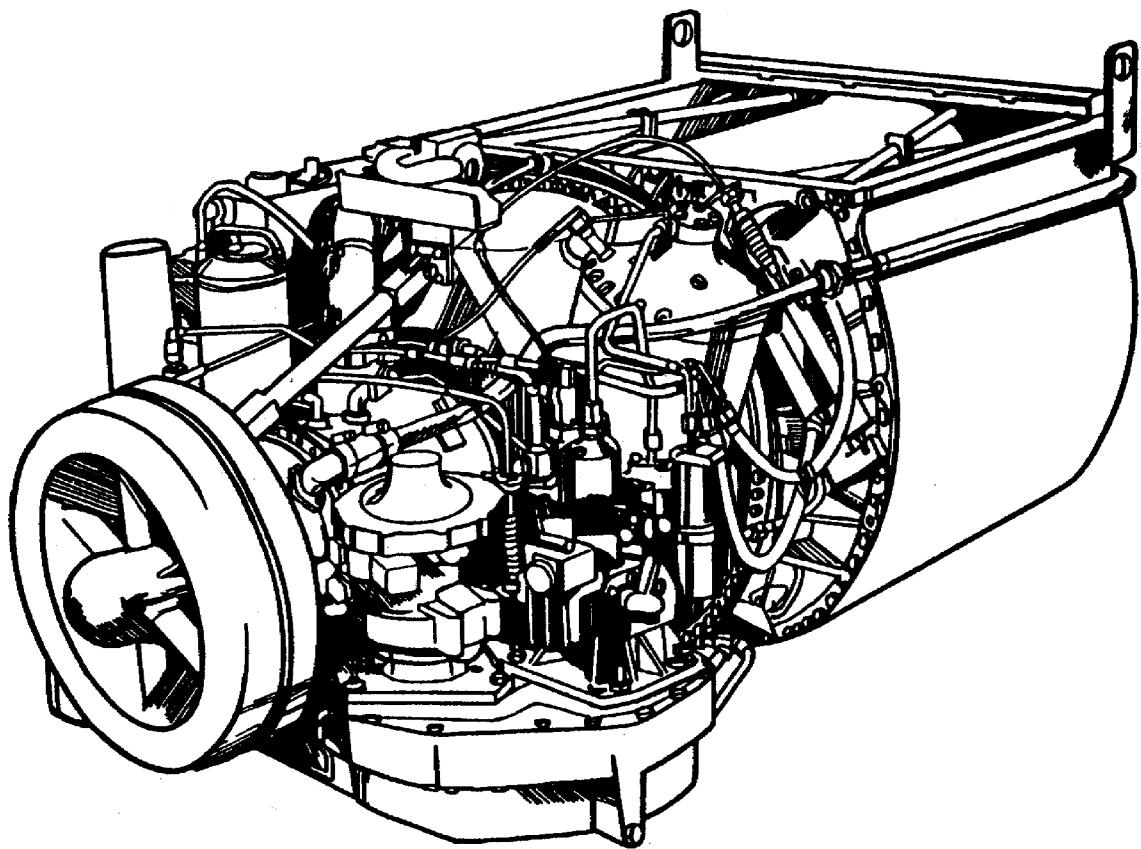

Figure 1-15. Turbine Engine.
(3) Control of speed and power. The speed and the power of the diesel engines are controlled by the quantity of fuel injected into the cylinders. This is opposed to the common gasoline engine, which controls speed and power by limiting the amount of air admitted to the carburetor. In the diesel engine, a varying amount of fuel is mixed with a constant amount of compressed air inside the cylinder. A full charge of air enters the cylinder on each intake stroke. Because the quantity of air is constant, the amount of fuel injected determines speed and power output. As long as the amount of fuel injected is below the maximum established by the manufacturer who designed the engine, there is always enough air in the cylinder for complete combustion.
(4) Combustion process. In the diesel engine, there is continuous combustion during the entire length of the power stroke, and pressure resulting from combustion remains relatively constant throughout the stroke. In the gasoline engine, combustion is completed while the piston is at the upper part of travel. This means that the volume of the mixture stays about the same during most of the combustion process. When the piston does move down and the volume increases, there is a little additional combustion to maintain pressure. Because of these facts, the cycle of the gasoline engine is often referred to as having Constant Volume Combustion while the diesel cycle is said to have Constant Pressure Combustion.
b. Turbine Engine. (Figure 1-15). The turbine engine burns low performance diesel fuel mixed with compressed and heated air. Air enters the engine and flows through two compressors. The compressed air is heated by exhaust gases to aid burning. The heated and compressed air is directed into the combustion chamber where it mixes with fuel vapor. Continuous burning occurs once it has been started by an ignition spark. Gases are routed through the recuperator to heat incoming air and then exhausted.